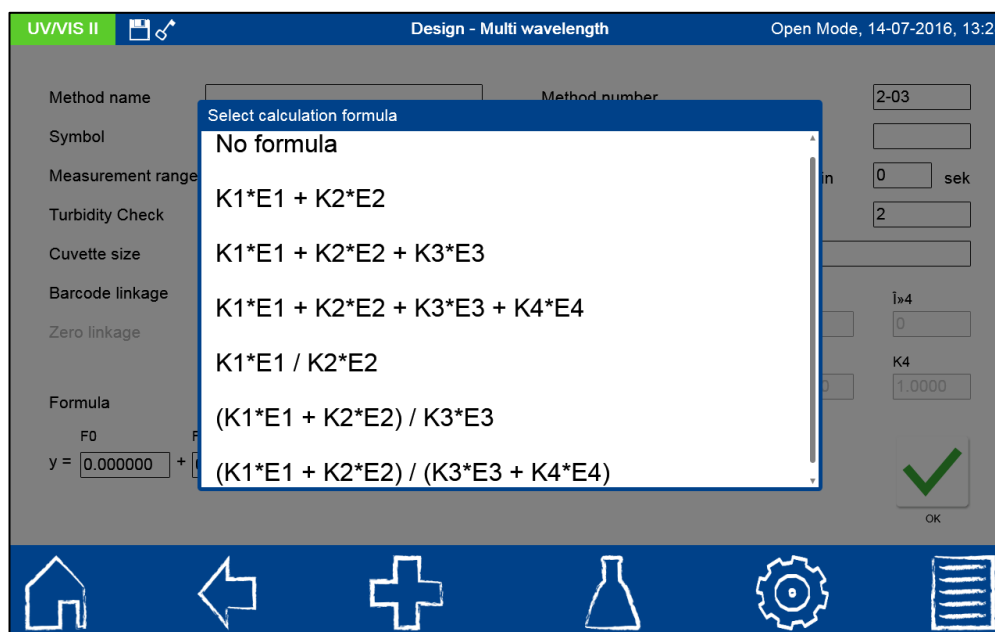

Figure 33: List of possible calculation formulas for multi-wavelength measurements
**Turbidity control:** When activated, the nephelometric turbidity of the sample will also be measured with each measurement and evaluated on the basis of the limit stored in the settings (see Section 6.1.10). This function is available only with the 14 mm (ID) test tubes.
**Calculation formula (multi-wavelength measurements):** In this section, the wavelengths and coefficients given in the selected calculation formula are defined. The number of wavelengths is determined by the choice of the calculation formula. To enter, tap on the calculation formula entry and select the desired formula from the list. Tap on the fields for the wavelengths and coefficients and enter the values using the numeric keypad. The list of calculation formulas includes the options shown in Figure 33, with E1 as absorbance value of the wavelength 1, E2 as absorbance value of the wavelength 2, K1 as multiplication factor of the wavelength 1, K2 as multiplication factor of the wavelength 2, etc. To include a subtraction step in one of the formulas, the K factors can be programmed with a minus sign.
*Calculation formula:* In this section, the wavelengths and the coefficients specified in the selected calculation formula are defined. The number of wavelengths is determined by the choice of the calculation formula. Tap on the calculation formula entry and select the desired formula from the list. Tap on the fields for the wavelengths and coefficients to enter the values via a numeric keypad. The list of calculation formulas includes the options shown in Figure 33, with E1 as absorbance value of the wavelength 1, E2 as absorbance value of wavelength 2, K1 as a multiplication factor of the wavelength 1, K2 as a multiplication factor of the wavelength 2, etc. To include a subtraction step in one of the formulas, the K factors can be programmed with a minus sign.